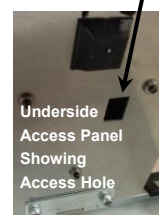

Figure 8, 9 and 10
**NOTE:** If you are using a "Sealed Gel" 12-volt battery (instead of a "Wet" Lead Acid battery) you will need to adjust Dip Switch 1 to the "ON" position, and Dip Switch 2 to the "OFF" position. (Fig. 8, 9 and 10) The Access Hole is located on the Underside of the Solar Controller flexible panel, attached to the back side of the solar panel. The factory preset setting is for a 12-volt "Wet" Lead Acid battery with Dip Switch 1 to the "OFF" position, and Dip Switch 2 to the "ON" position. It is recommended that you use a Group 27, Deep Cycle 12-bolt battery for optimum performance.